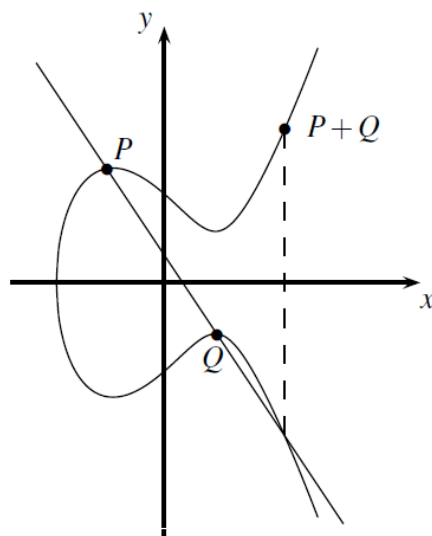

Fig 1.
- **Point addition $P+Q$:** This is the case where we compute $R=P+Q$ and $P \neq Q$. The construction works as follows: Draw a line through P and Q and obtain a third point of intersection between the elliptic curve and the line. Mirror this third intersection point along the x -axis. This mirrored point is, by definition, the point R . Figure 1. shows the point addition on an elliptic curve over the real numbers.